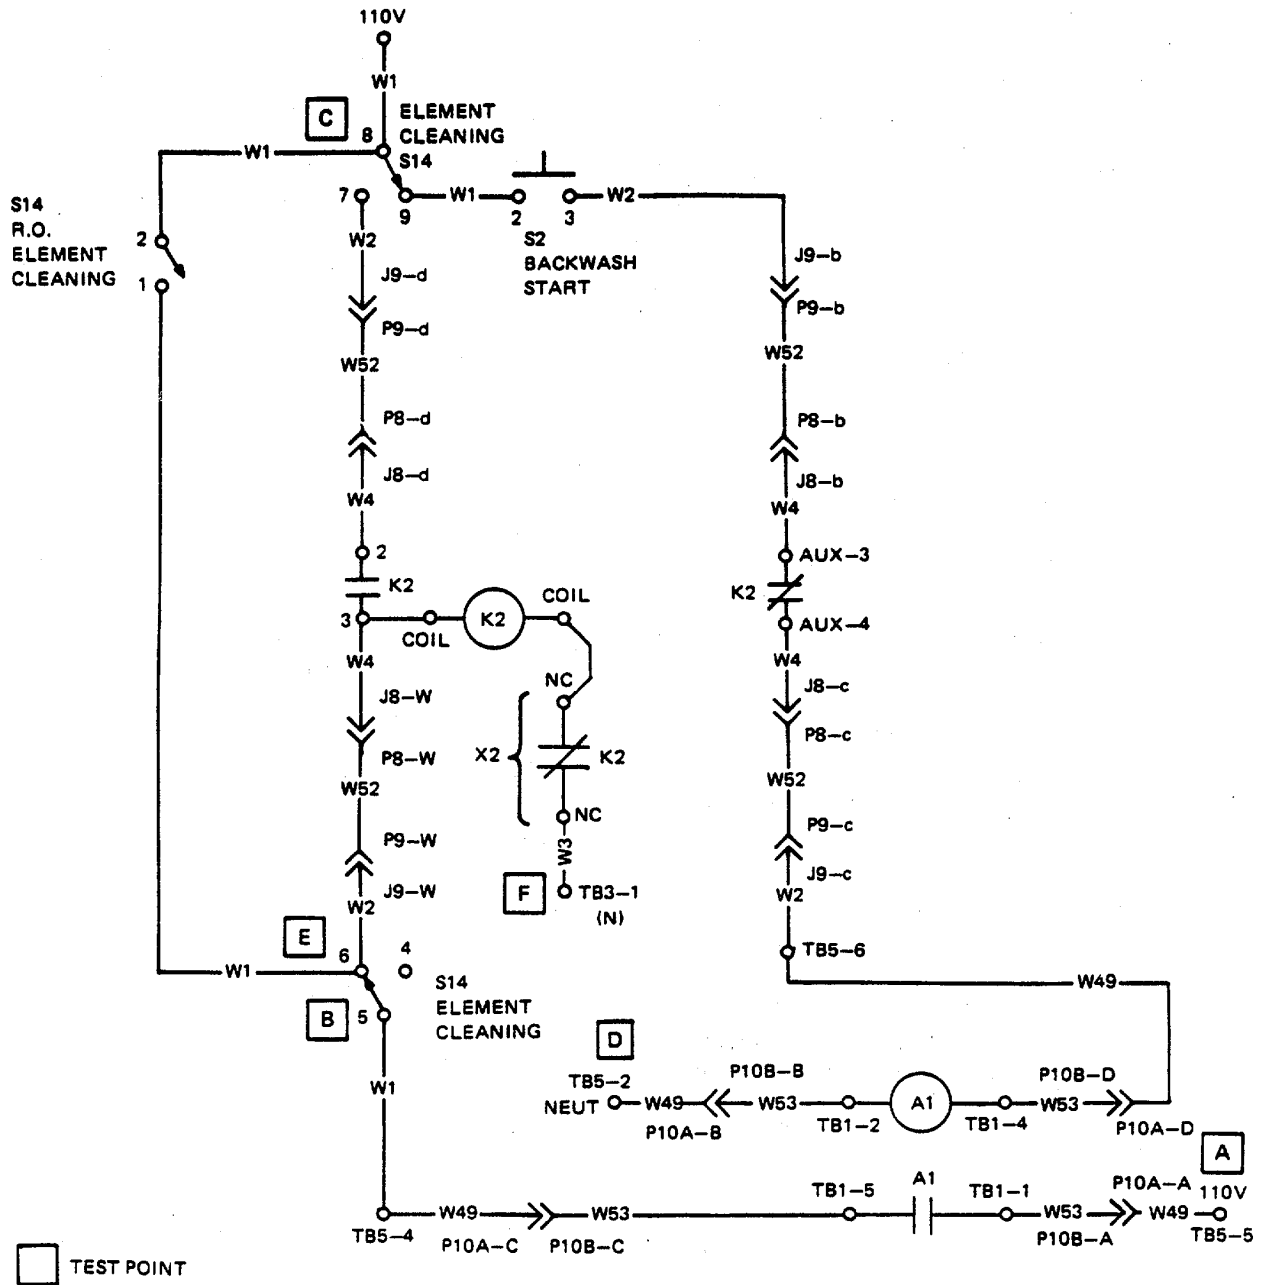

Figure 3-12. Backwash Pump Assembly Support Diagram
Ensure that all circuit breakers are set. Refer to figure FO-3 for schematic diagram and figure FO-4 for interconnection diagram. Refer to figure 3-1 for control box support diagram, figure 3-2 for junction box support diagram, and figure 3-12 for backwash pump assembly support diagram.
- Step 3. Shut down ROWPU. Refer to TM 10-4610-239-10. Shut down power. Refer to generator manual. Refer to backwash pump assembly support diagram figure 3-12. Check continuity point-to-point between test points A and B. If all checks indicate continuity except across A1, repair backwash timer assembly. Refer to paragraph 3-24.
- Step 4. Shut down ROWPU. Refer to TM 10-4610-239-10. Shut down power. Refer to generator manual. Hold BACKWASH switch in START position. Refer to backwash pump assembly support diagram figure 3-12. Check continuity point-to-point between test points C and D.
Ensure that all circuit breakers are set. Refer to figure FO-3 for schematic diagram and figure FO-4 for interconnection diagram. Refer to figure FO-3 for schematic diagram and figure FO-4 for interconnection diagram. Refer to figure 3-1 for control box support diagram, figure 3-2 for junction box support diagram, and figure 3-12 for backwash pump assembly support diagram.
- Step 2. Shut down ROWPU. Refer to TM 10-4610-239-10. Shut down power. Refer to generator manual. Set ELEMENT CLEANING switch to RUN position. Refer to backwash pump assembly support diagram figure 3-12. Check continuity point-to-point between test points C and F.